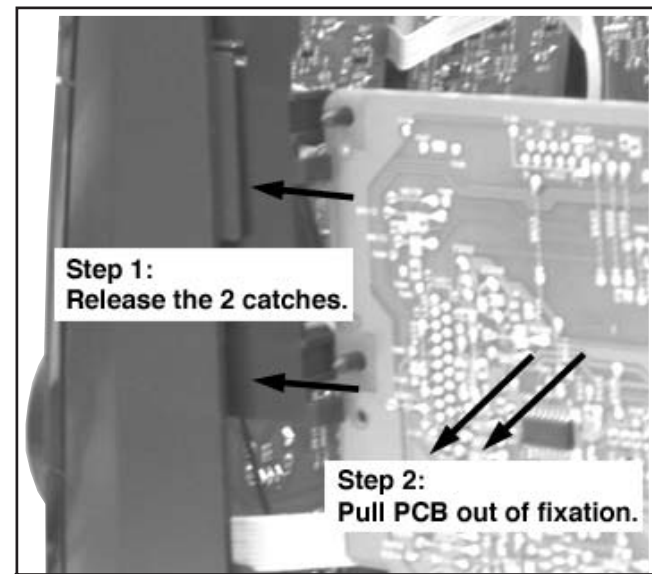
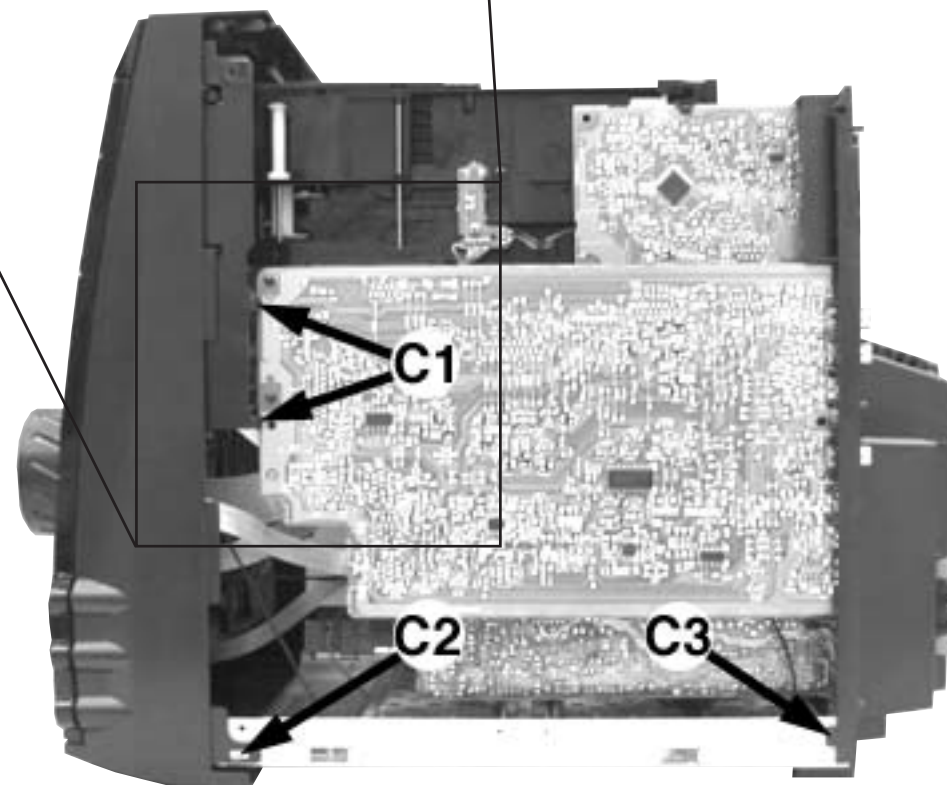

Figure 8
Figure 9
- 1) Remove 2 screws B as shown in Figure 8 from the bottom of the Cabinet Front .
- 2) Release the fixation of the AF Board to Bracket CDC Right by releasing the 2 catches C1 (see Figure 9) and pulling the AF Board outwards as shown in Figure 8.
- 3) Uncatch 2 catches C2 (see Figure 9) on the left & right sides of the Cabinet Front and slides the Front Panel assembly out towards the front.
- 5) Loosen 3 screws M (see Figure 17) and uncatch C3 (see Figure 9) to remove the Panel Rear by sliding it out towards the rear.